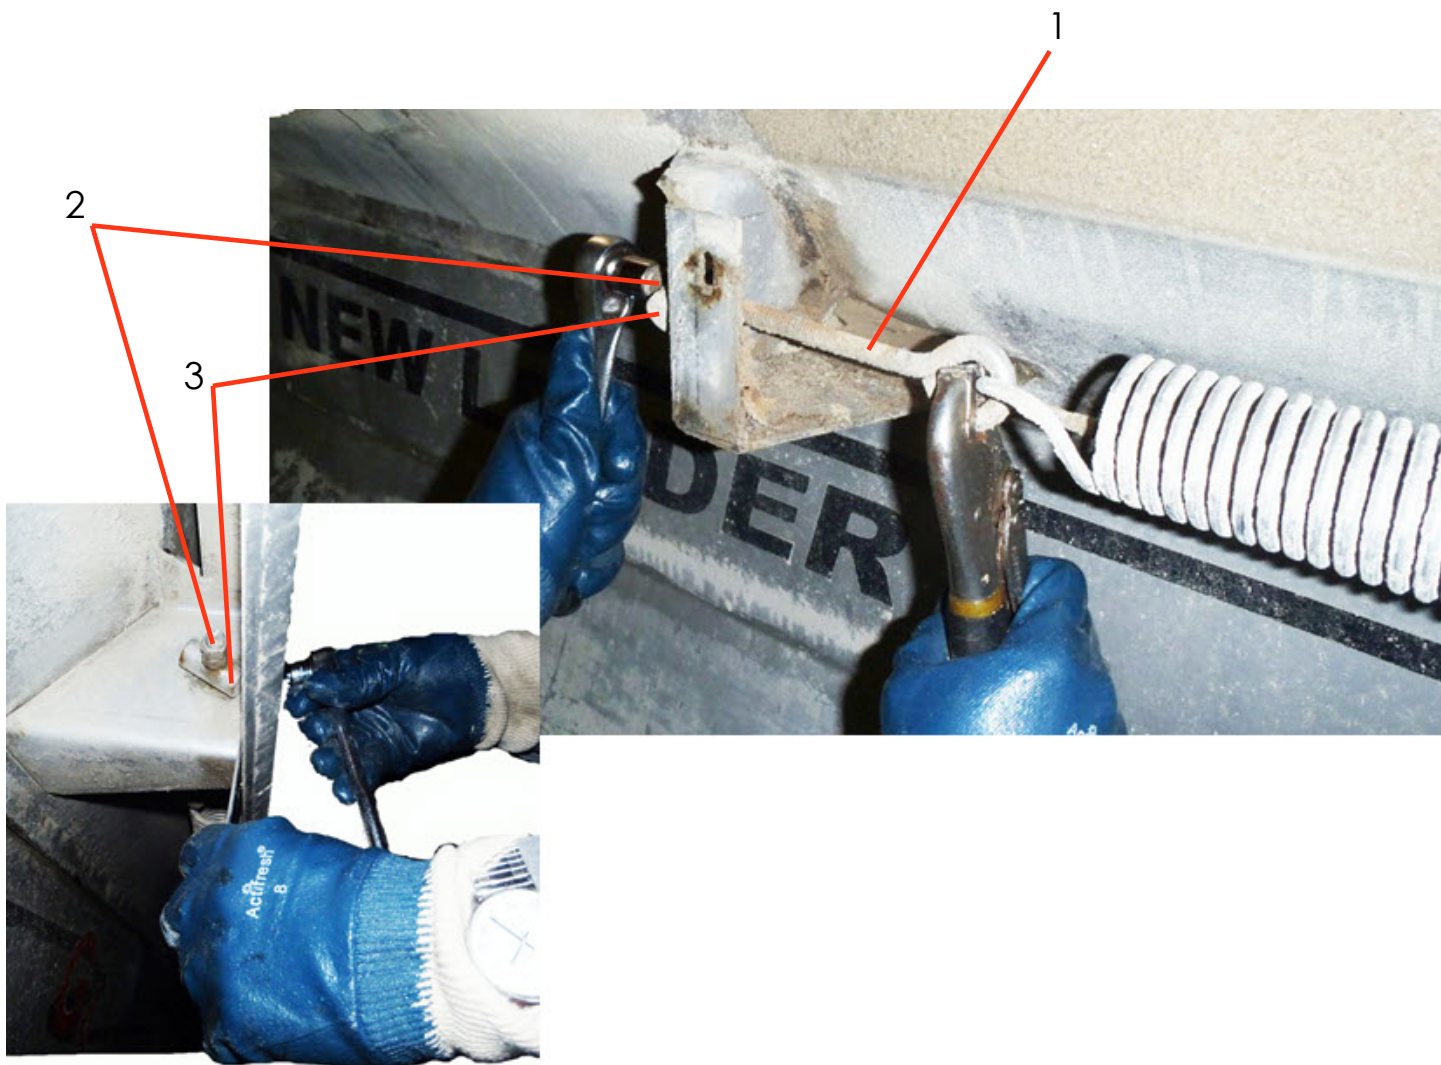

Figure 10
10. Figure 10 - Use Vise Grips to secure Eyebolt (1). Carefully remove eyebolt 3/8" nut (2). Set nut (2) and spring pivot (3) aside for later use.